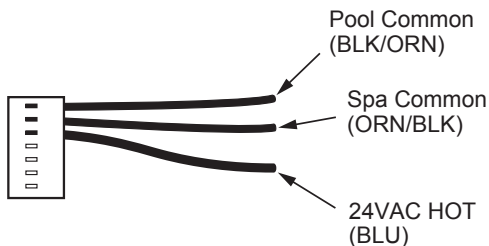

Figure 30. 7-Pin Remote Interface Harness
The P-156 heaters are equipped with the ability to work with external remote controls. The P-106 is not equipped for remote operation. The supplied 7-pin remote wiring connector supplies power out to either a toggle switch or the switch contacts of a third-party remote. See **Figure 30**. The remote works by either making or breaking the circuit created by the remote wiring. Typically, a remote does not supply power to the heater, it only provides a switching function to turn the heater On or Off. **If your remote is supplying its own voltage to the heater, it will not work with this heater and may damage the digital circuit board.**
5. On the "Remote Interface Harness", connect the BLUE wire to one side of the "REMOTE" switch and connect the other side to either the ORANGE/BLACK wire for "SPA" operation or the BLACK/ORANGE wire for "POOL" operation. See **Figure 30**.
5. On the "Remote Interface Harness" connect the BLUE wire to one side of the "REMOTE" switch and connect the ORANGE/BLACK wire for "SPA" operation and the BLACK/ORANGE wire for the "POOL" operation. See **Figure 30**.